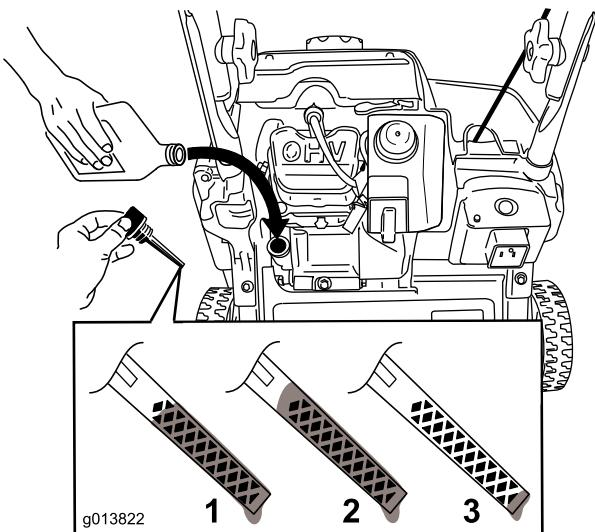

Figure 7
**Note:** To determine the proper oil level on the dipstick, refer to Figure 7.
**Note:** Fill the engine crankcase with oil until the dipstick indicates that the engine oil level is correct as shown in Figure 7. If you overfill the engine with oil, remove the excess oil as directed in Changing the Engine Oil.